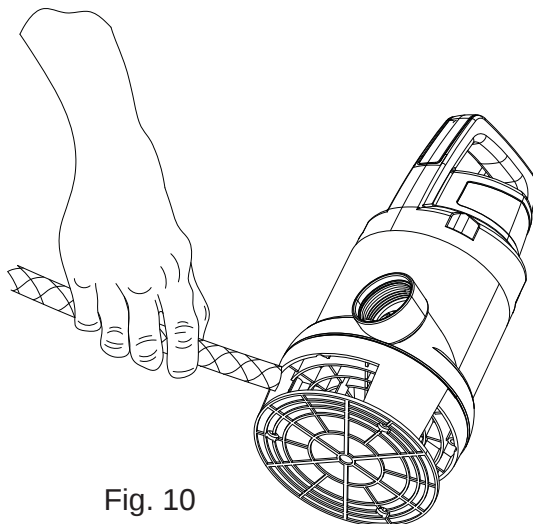

Fig. 10
- 3) Clean behind footstool plate using water pressure from a hose pipe (Fig. 10).